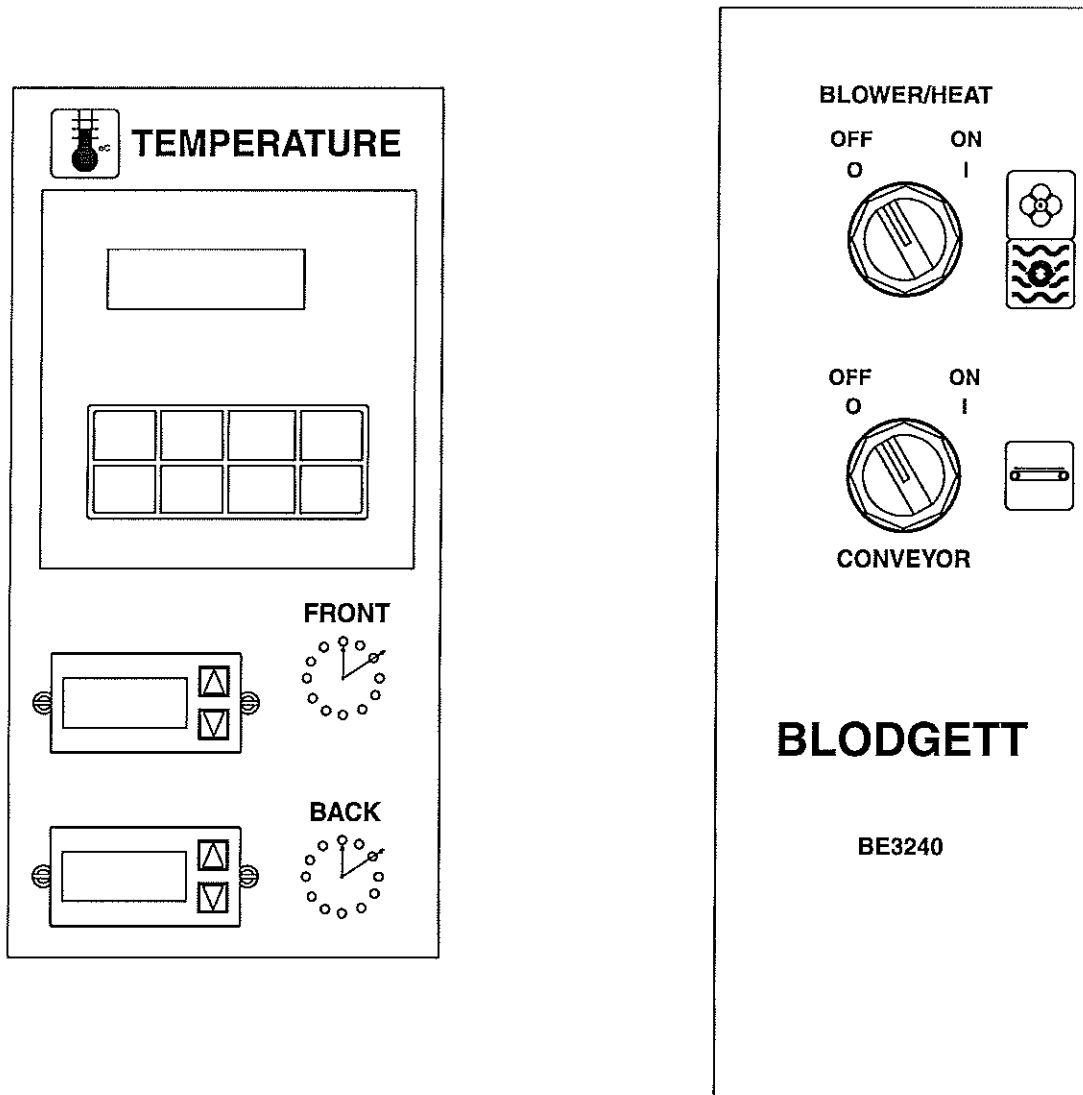

Figure 3-6. Control Panel
1. Turn the BLOWER/HEAT switch (Figure 3-6) to the "ON" or "I" position. This starts the main blower fan and the cooling fan. The blower circulates air through the air fingers and must stay on during the cooking or baking process.
2. Check to see if the cooling fan (see Figure 1-8) is operating when the blower switch (see Figure 3-6) is turned "ON" or "I". The cooling fans cool the control components and burner blower motor. The cooling fan, located at the rear of the electrical control cabinet blows air into and through the cabinet. Air is exhausted through the front of the cabinet and also out the front of the oven. Refer to Daily Maintenance Section for fan intake checking procedure.
3. Turn the CONVEYOR switch (Figure 3-6) to the "ON" or "I" position. This starts the conveyor belt moving through the oven. Set the conveyor speed for the desired baking time. Refer to the following Procedures E, F and G.